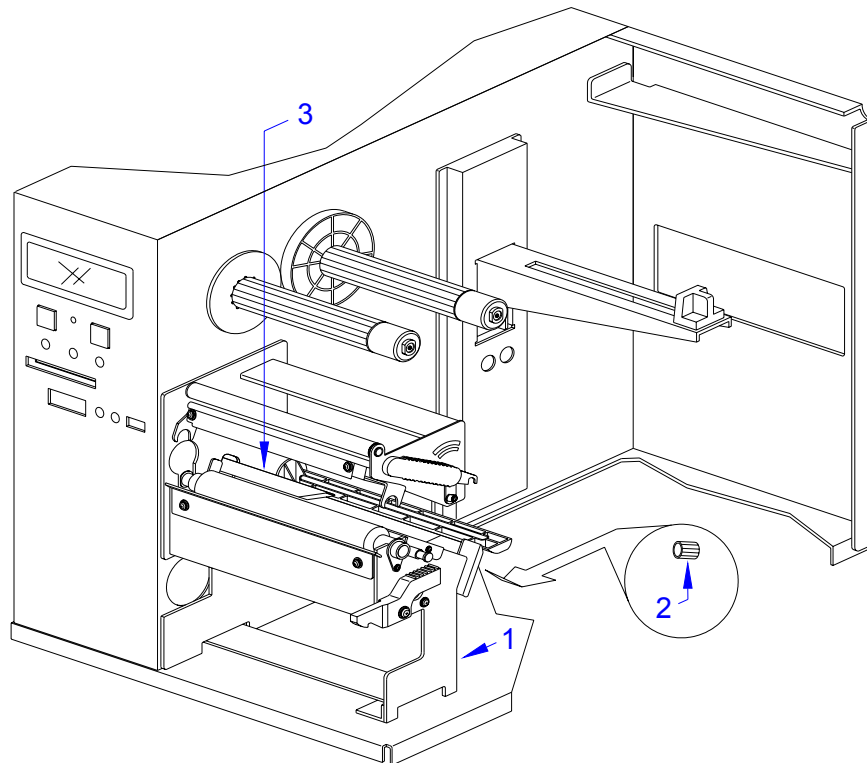

Figure 6-7, Label Sensor Positioning
- 1 Open the right housing cover to access print assembly (1, Figure 6-7).
- 2 Find label sensor adjustment knob (2) located behind lower print assembly (1).